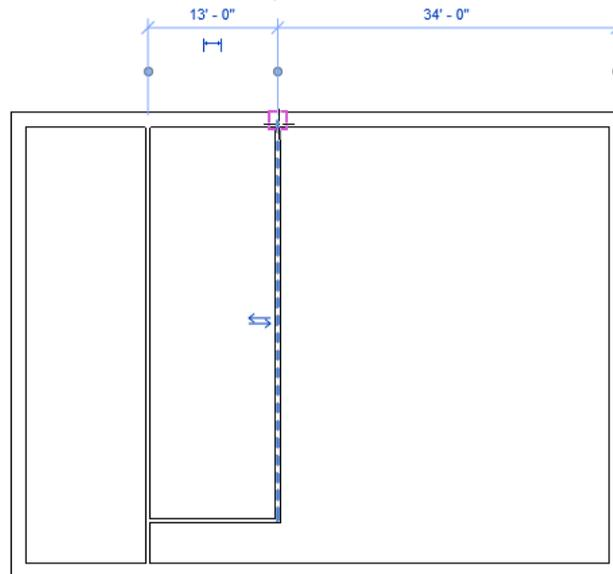

Figure 3-84 The wall created extended upto the upper exterior wall
- Now, click on the wall you just created and move the cursor vertically upward and click on the upper exterior wall, as shown in Figure 3-84.